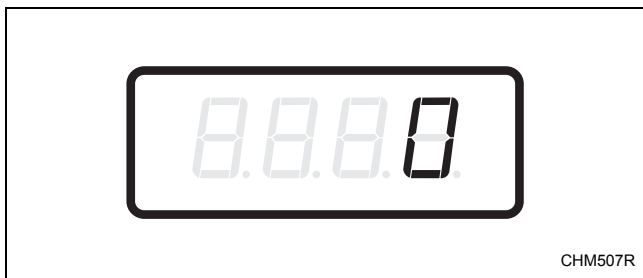

Figure 26
2. When “CnP2” appears in the display, press the START (enter) keypad. There are five digits in the Cycle Modifier C Price. The fifth digit will appear in the display and will flash for one second on, one second off. Refer to *Figure 26*.